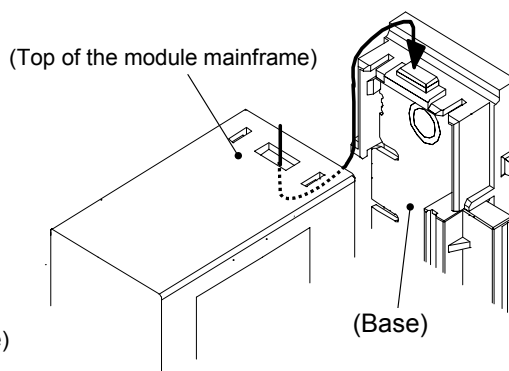

Fig.2: Mounting the module mainframe
5. Mount the module on the base. (Fig.2)